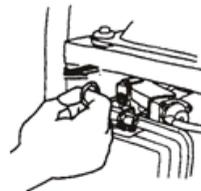

Figure 23
6.5 Set the Choke Lever to OFF position (Figure 23)